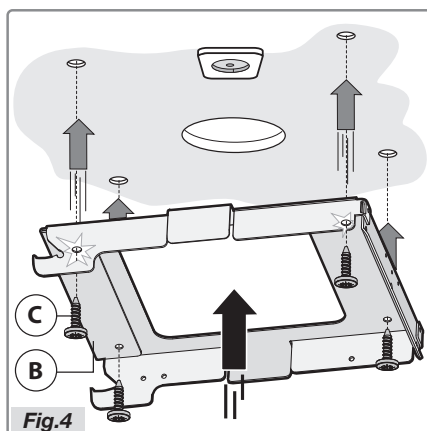

Fig.4
- Take the bracket **B** and secure this to the ceiling with the four screws **C** (Fig.4).